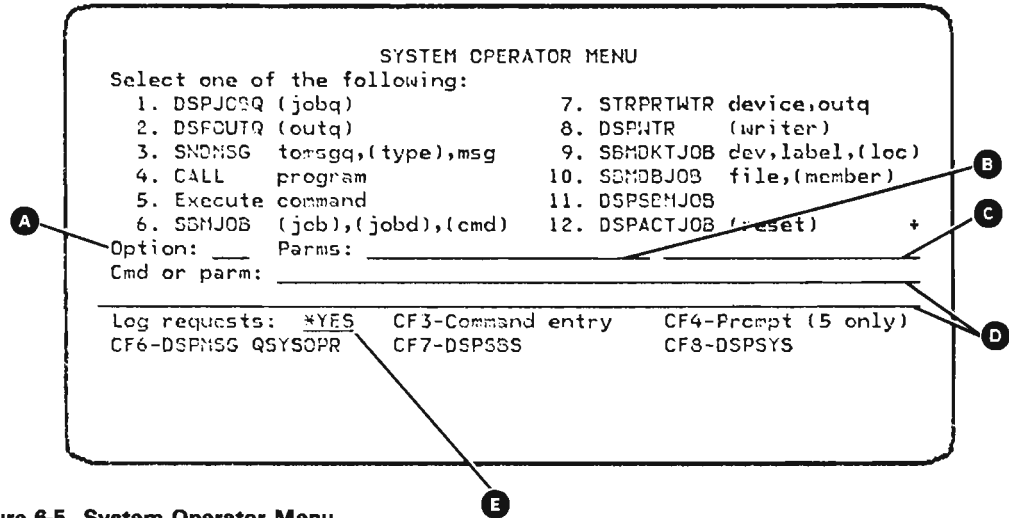

Figure 6-5. System Operator Menu
*Option 1:* Entering 1 in the *Option* field (in Figure 6-5) requests a display of all job queues, or a display of all jobs on a specific job queue if you also enter a job queue name in the first *Parms* field (see *Job Queue Displays* in Chapter 10).